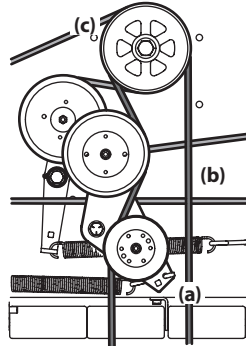

Figure 4-16
3. Using a 1/2" drive in the idler pulley bracket (a), turn the wrench towards the right of the tractor and slide the PTO belt (b) off the PTO pulley (c). See Figure 4-16.